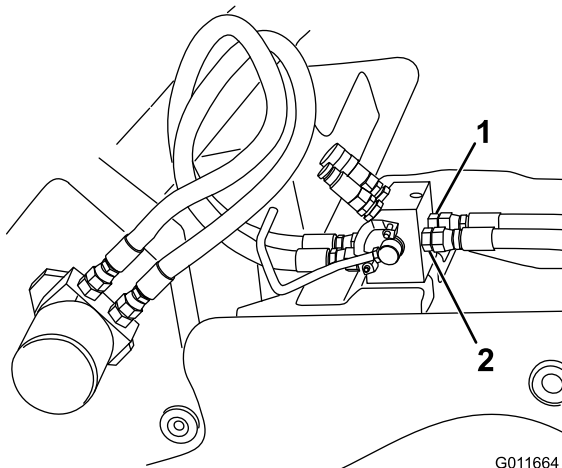

Figure 16
3. Connect the straight end of the hose to port T (right port) on the back of the hydraulic manifold (Figure 16).
6. Connect the straight end of the hose to port P (left port) on the back of the hydraulic manifold (Figure 16).
8. Loop the hoses up and around so that the open fittings are at the open ports on the hydraulic motor on the trencher (Figure 16).